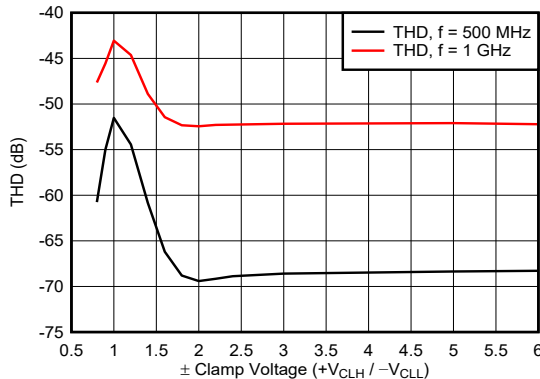

Figure 8-4. THD vs V_{CLH} / V_{CLL} for $V_{OUT} = 1 V_{PP}$
- The output THD of the BUF802 degrades when V_{CLH} and V_{CLL} are set close to the expected V_{OUT} peak value. To prevent signal degradation, maintain at least a 1.5 V difference between the expected peak output voltage and the clamp voltage applied at the CLH and CLL pins. Figure 8-4 shows the relation between the absolute clamp voltage value and THD for a 1 V_{PP} output.